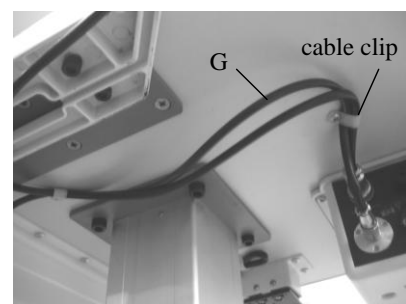

Fig.12
Remove the cable clips from the bottom of the work table with cross screw driver with wood handle (N) and wrap the output and input cables respectively, then reattach them to the bottom of the work table.(Fig.12)